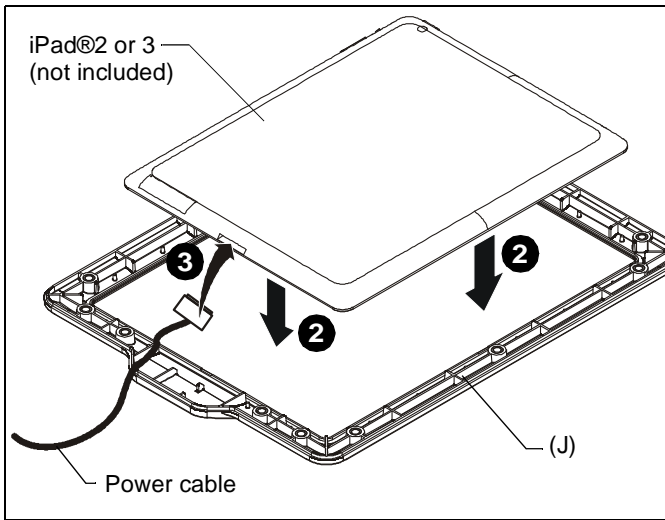

Figure 1
1. Lay security mount front (J) facedown.
2. Place iPad®2 or 3 (not included) facedown onto the mount front (J). (See Figure 1)
3. Attach power cable (not included) to iPad digital device. (See Figure 1)